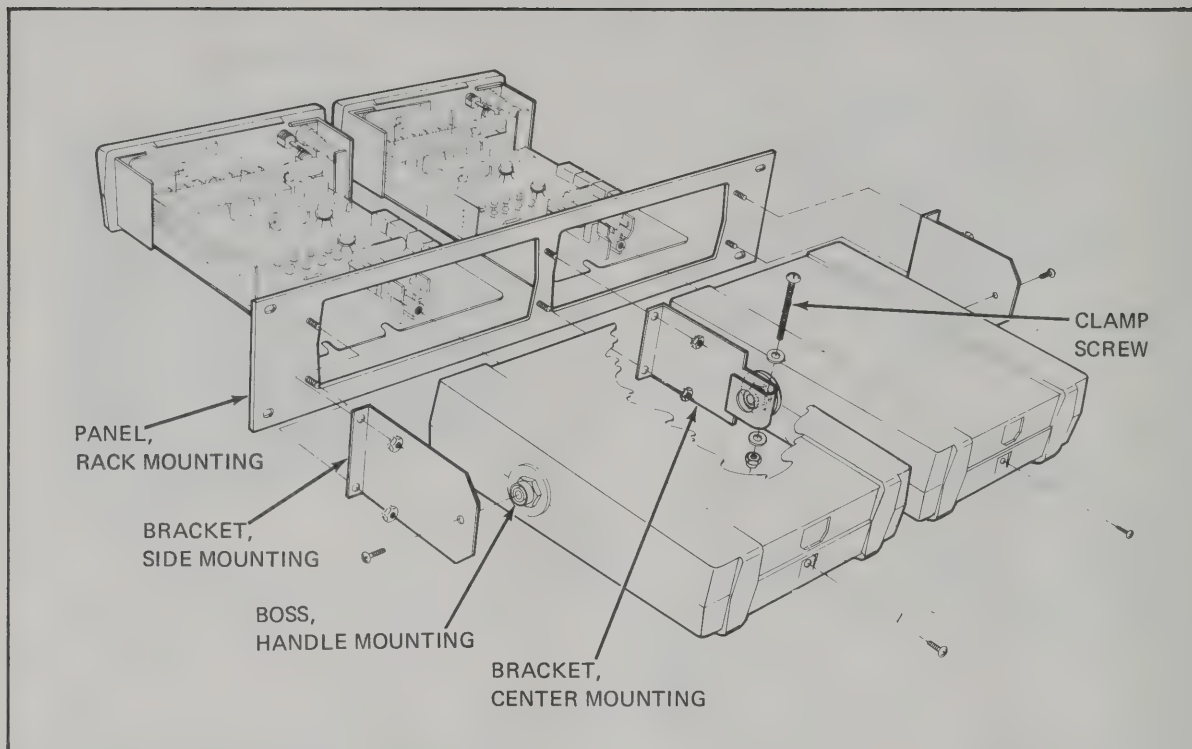

Figure 6-4. RACK MOUNTING KIT, SIDE-BY-SIDE MOUNTING
- c. Install the center mounting bracket, as shown in Figure 6-4, and secure it to the mounting panel using the nuts provided.